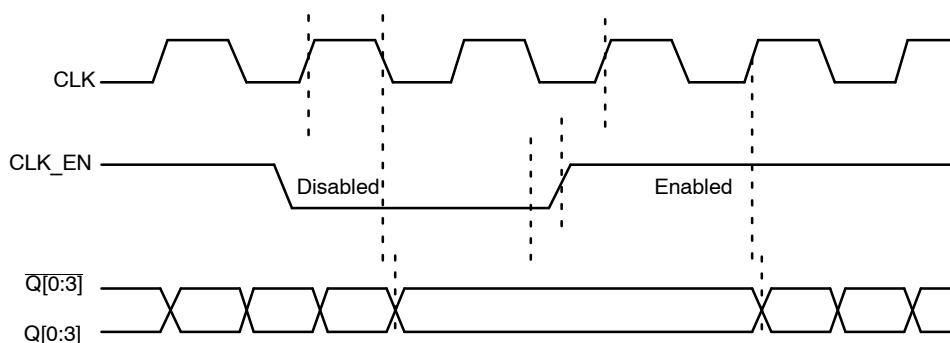

Figure 3. CLK\_EN Timing Diagram
1. After CLK\_EN switches, the clock outputs are disabled or enabled following a rising and falling input clock edge as show in Figure 3.